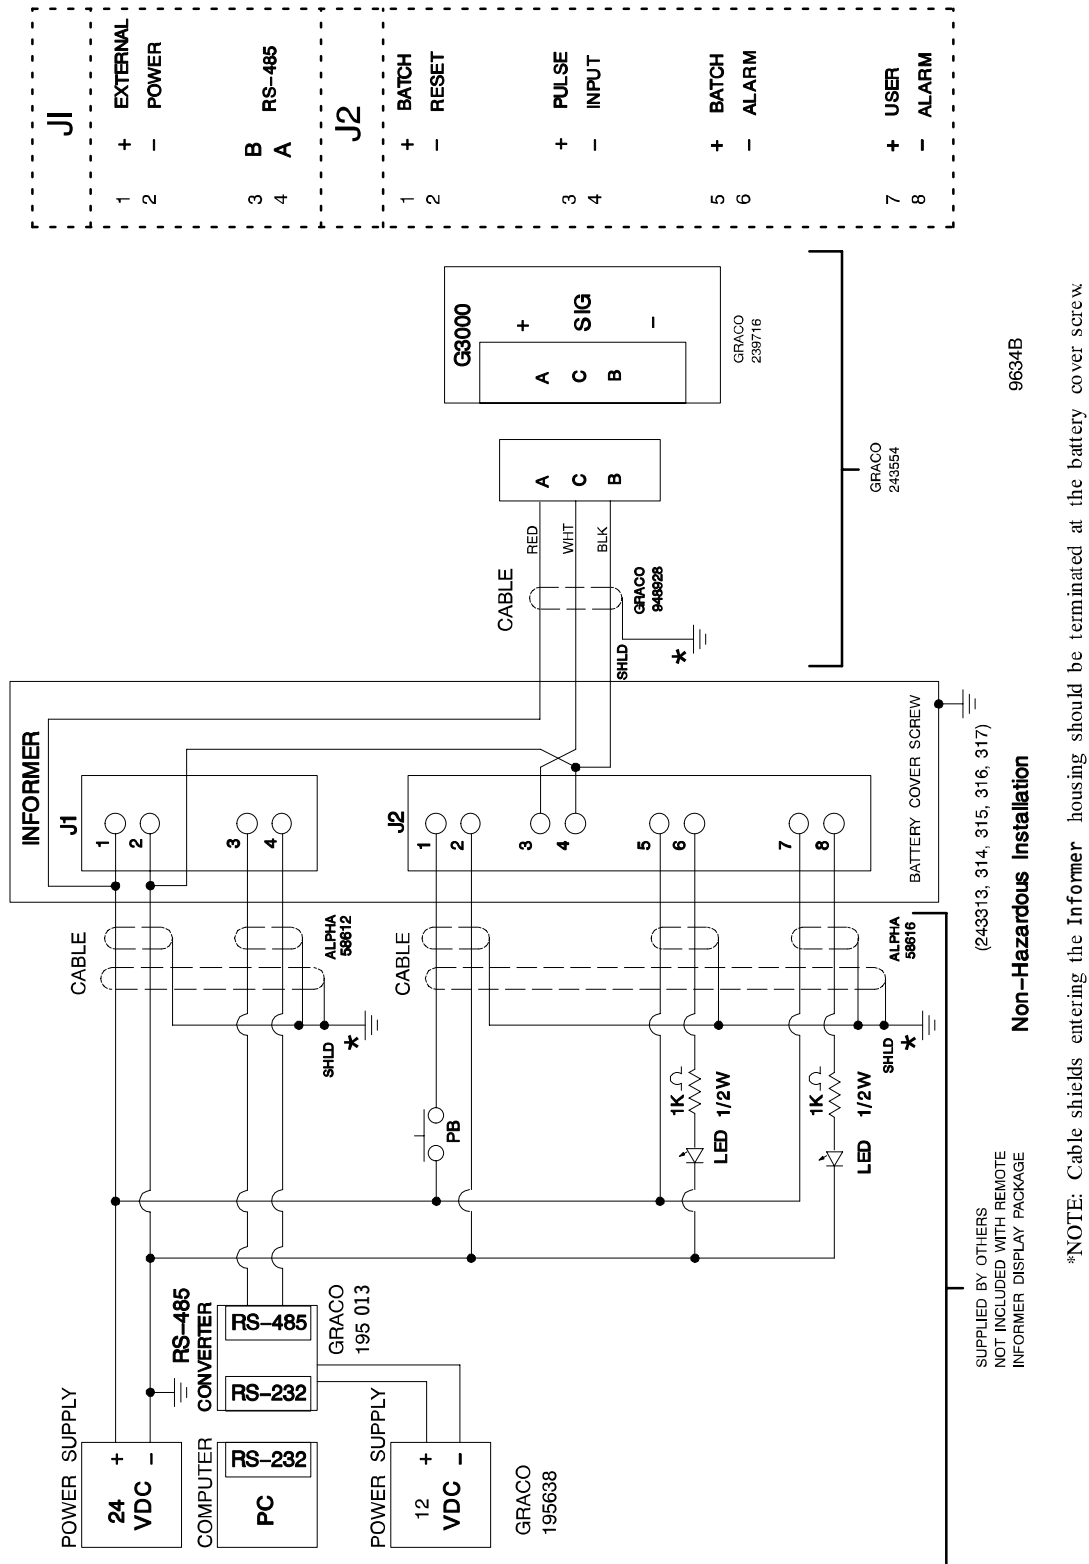

Fig. 3
- To install a flow meter and display in a non-hazardous area, refer to Fig. 3, page 9.
Connector J1 terminals are numbered 1 through 4. Connector J2 terminals are numbered 1 through 8. Terminal definitions and typical wiring connections are shown in figures 3 to 5 on pages 9 to 11.